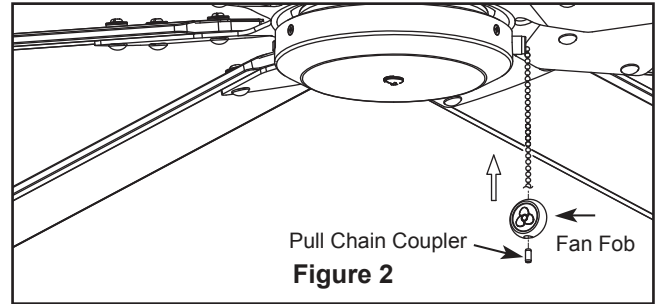

Figure 2
2. Install the fan fob and pull chain coupler. (Figure 2)